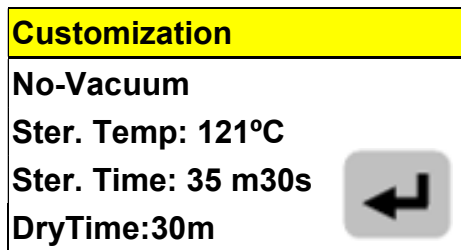

Figure 98
J. Press  or  button until as shown in Figure 98.